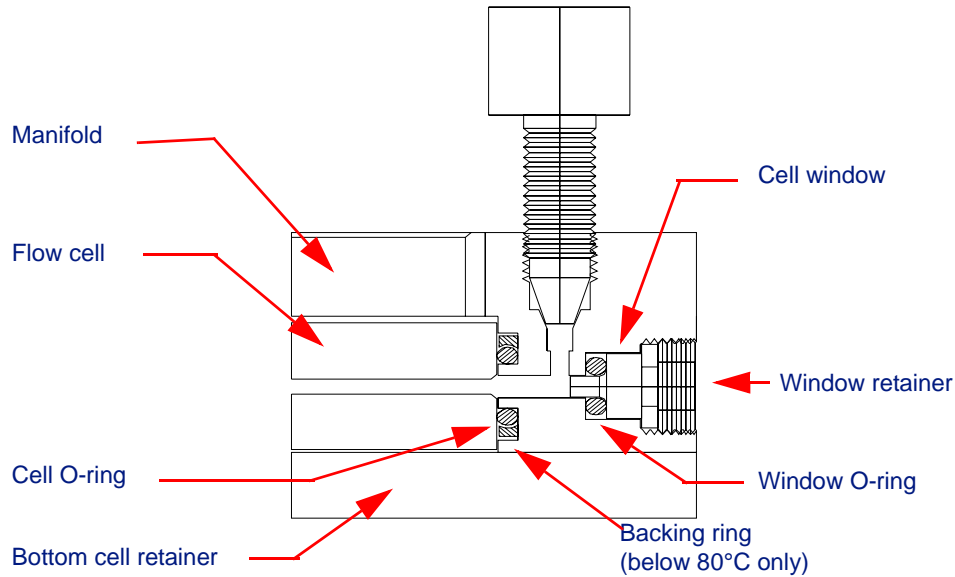

Figure 5-9: Window mount detail
1. Carefully replace the windows with their O-rings, washers and retainers so that the windows are not chipped or over-tightened. (See Figure 5-9.)